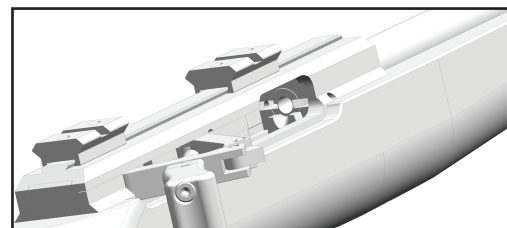

figure 7
1. Lubricate the cleaning brush with gun oil and insert it into the barrel via the chamber. Use the brush to carefully remove all powder residues and dirt in the barrel and chamber (figure 7).